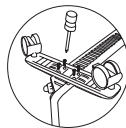

Figure 8
- Place the plate of the support foot to the attaching point on the convector so that the dome-shaped part of the plate will be tightly attached to the convector close to its rear panel, the screw holes should match (Fig. 8);